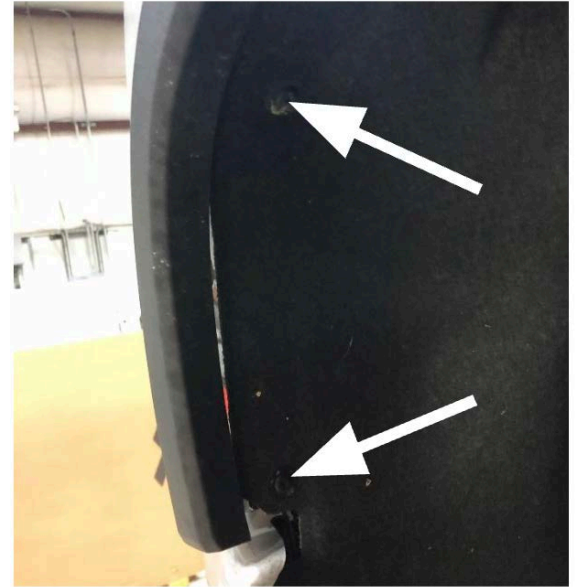

Figure 1.
1. Use a T10 star head socket wrench to remove the two (2) bolts from both the passenger and driver side wheel wells. Figure 1.